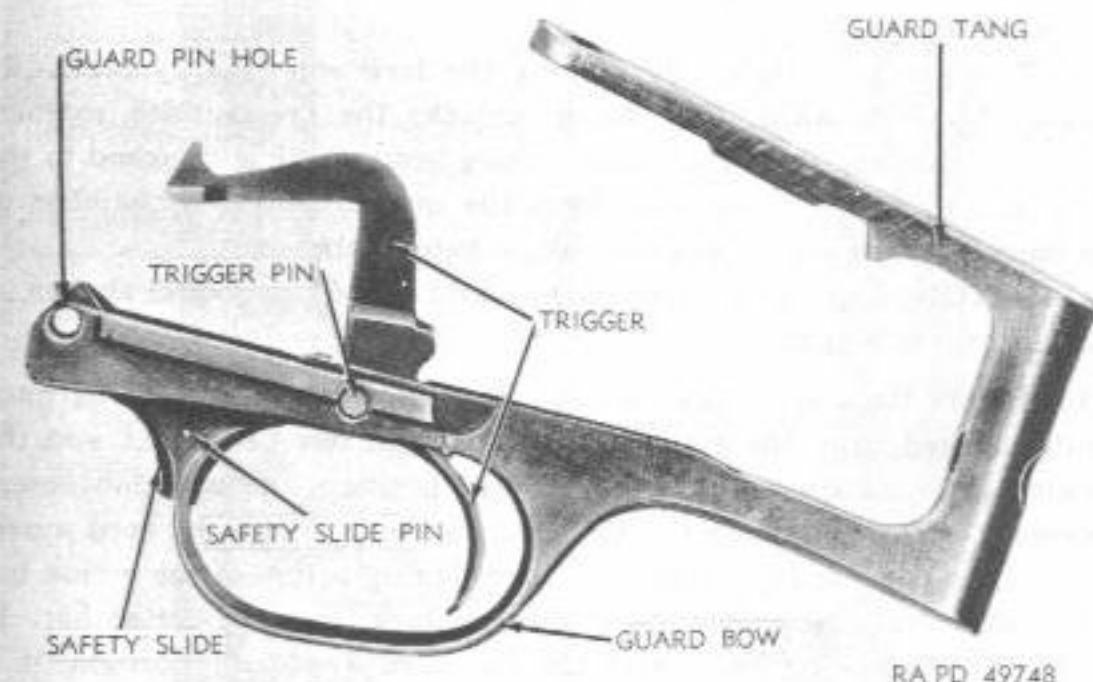

Figure 72—Trigger Guard Group—Left Side View—Remington Shotgun M10
(8) The extractor is of the claw type, positioned in the top of the forward end of the breechblock and actuated by a leaf spring.
(9) The safety slide is positioned in the forward end of the trigger guard bow (fig. 72) and operates longitudinally to block and release the trigger for retraction.